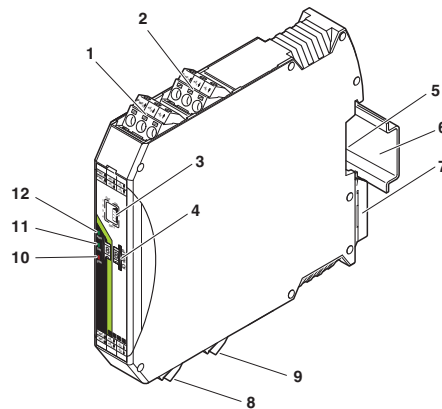

Figure 8-1 SATEL-LP-AI4 structure
A supply voltage of at least 12 V DC is available at connection terminal block PWR₁ for passive sensors (see Figure 8-1, item 1).